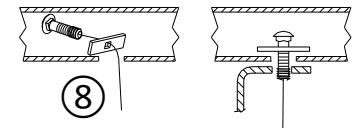

Figure 2
②	Qty. (2)	Spacer .250 x 1 x 3 Part #: 3022
③	Qty. (2)	Conical washer 1/2" Part #: 01292008
④	Qty. (2)	Hex Nut 1/2-13 GR2
⑤	Qty. (4)	Bolt M8 x 1.25 x 40, CL8.8
⑥	Qty. (4)	Spacer (round hole) .250 x 1 x 1.5 Part #: 4294
⑦	Qty. (4)	Conical washer 3/8" Part #: 01292006
⑧	Qty. (2)	Pull wire 1/2-13 Part #: 5482
- Remove lower fascia (plastic portion)** - use T10 torxbit socket to remove (2) plastic screws and (2) tabs from bottom lower fascia. Use plastic trim tools or flat head screwdriver to unclip all tabs behind lower fascia. Remove the lower fascia.
- Lower exhaust hanger** - use 13 mm socket to remove (1) bolt from exhaust hanger bracket each side and lower the muffler temporarily. Use a support or bungee cord to keep muffler from getting damaged.
- Remove lower bumper bolts** - use 13 mm socket to remove (4) M8 factory bolts from lower portion of bumper beam. Return to vehicle owner.
- Install hitch** - (a) Using the reverse fishwire method, feed the carriage bolt ① and spacer ② through slots on bottom of frame rails, as shown in **Figure 2**. Leave pull wires attached. (b) Tape (4) 1/4" spacers ⑥ on forward side of hitch brackets and align hole in spacer with slot in hitch, as shown in **Figure 1**. (c) Raise hitch into position, over the exhaust, and feed the pull wires previously installed through holes in hitch. (d) Remove pull wires and loosely install 1/2" conical washer ③ and hex nut ④ to carriage bolt. Bend the edge of heat shield if needed. (e) Loosely install (4) M8 bolts ⑤ and (4) 3/8" conical washers ⑦ into existing lower bumper mounting weldnuts, see **Figure 1**.
1. Remove lower fascia (plastic portion) - use T10 torxbit socket to remove (2) plastic screws and (2) tabs from bottom lower fascia. Use plastic trim tools or flat head screwdriver to unclip all tabs behind lower fascia. Remove the lower fascia.
2. Lower exhaust hanger - use 13 mm socket to remove (1) bolt from exhaust hanger bracket each side and lower the muffler temporarily. Use a support or bungee cord to keep muffler from getting damaged.
3. Remove lower bumper bolts - use 13 mm socket to remove (4) M8 factory bolts from lower portion of bumper beam. Return to vehicle owner.
4. Install hitch - (a) Using the reverse fishwire method, feed the carriage bolt ① and spacer ② through slots on bottom of frame rails, as shown in **Figure 2**. Leave pull wires attached.